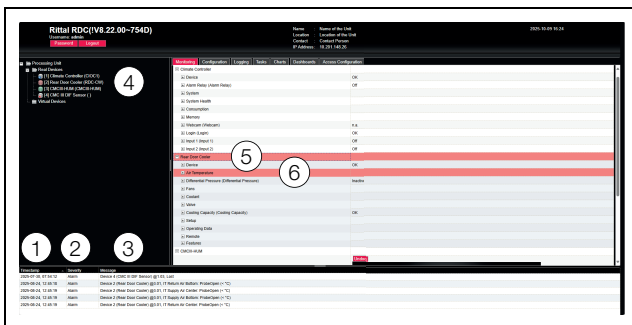

Fig. 96: Layout of message display
1. Timestamp: The date and time when the error occurred (fig. 96, item 1).
2. Severity: Severity of the error. A distinction is made between Warnings and Alarms (fig. 96, item 2).
3. Message: Error message in plain language (fig. 96, item 3).
- Left-hand screen section (navigation area): The symbol in front of the component on which the error occurred is shown in red in the tree view in the event of an alarm message, and yellow in the event of a warning message (fig. 96, item 4).
- Right-hand screen section (configuration area): On the **Monitoring** index tab, the entire component and the specific parameter to which the warning or alarm applies is shown in red or yellow (fig. 96, item 5 And 6).